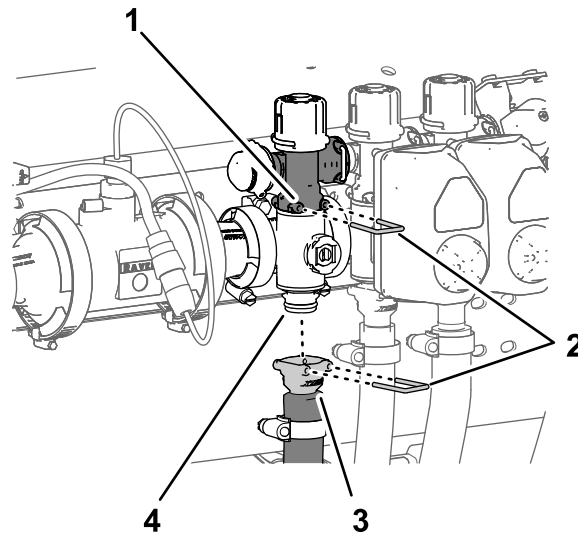

Figure 108
1. Remove the quick-connect pin that secures the quick-connect coupler for the section-bypass valve to the section-manifold valve (Figure 108).
2. Remove the quick connect pin that secures the quick-connect coupler for the section supply hose to the manifold for the quick-connect fitting of the section-manifold valve (Figure 108).